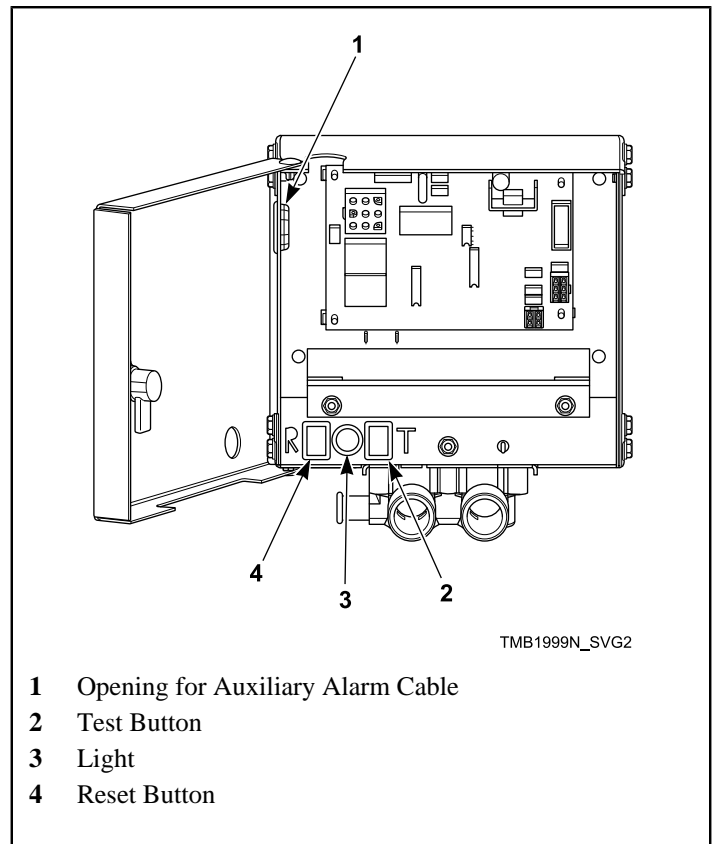
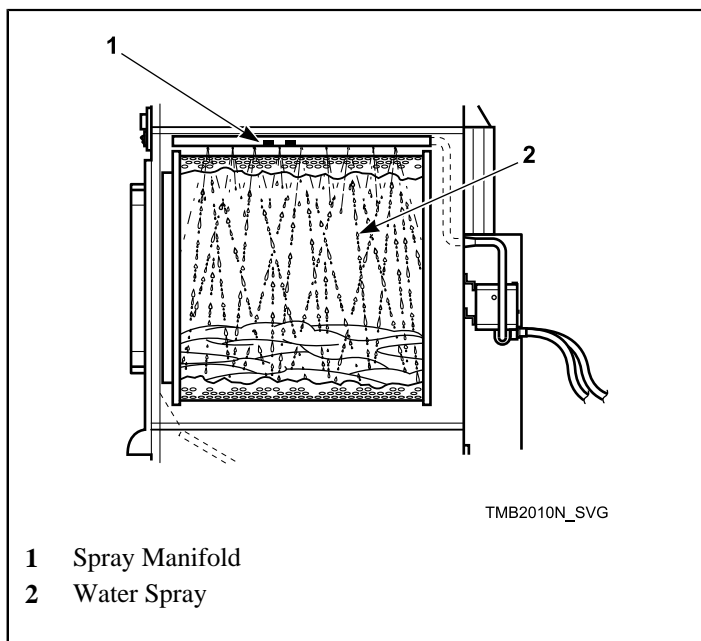

Figure 46
Figure 47
6. Press and hold the test button, verify the light is on, this should take approximately five seconds. Refer to *Figure 46*. After a one-second pause water should begin to spray into the cylinder.
7. After 15 seconds of water spray, press and hold the reset button until water spray is off and light is off. This should take approximately one second. Refer to *Figure 46* and *Figure 47*.